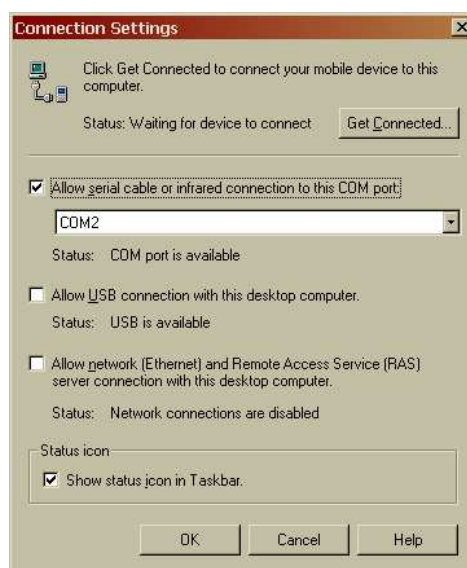

Figure 9 - Active Sync setting
- Lay the unit upside down as shown in Figure 9. Remove the two rear rubber feet and remove the six screws that hold the case together.